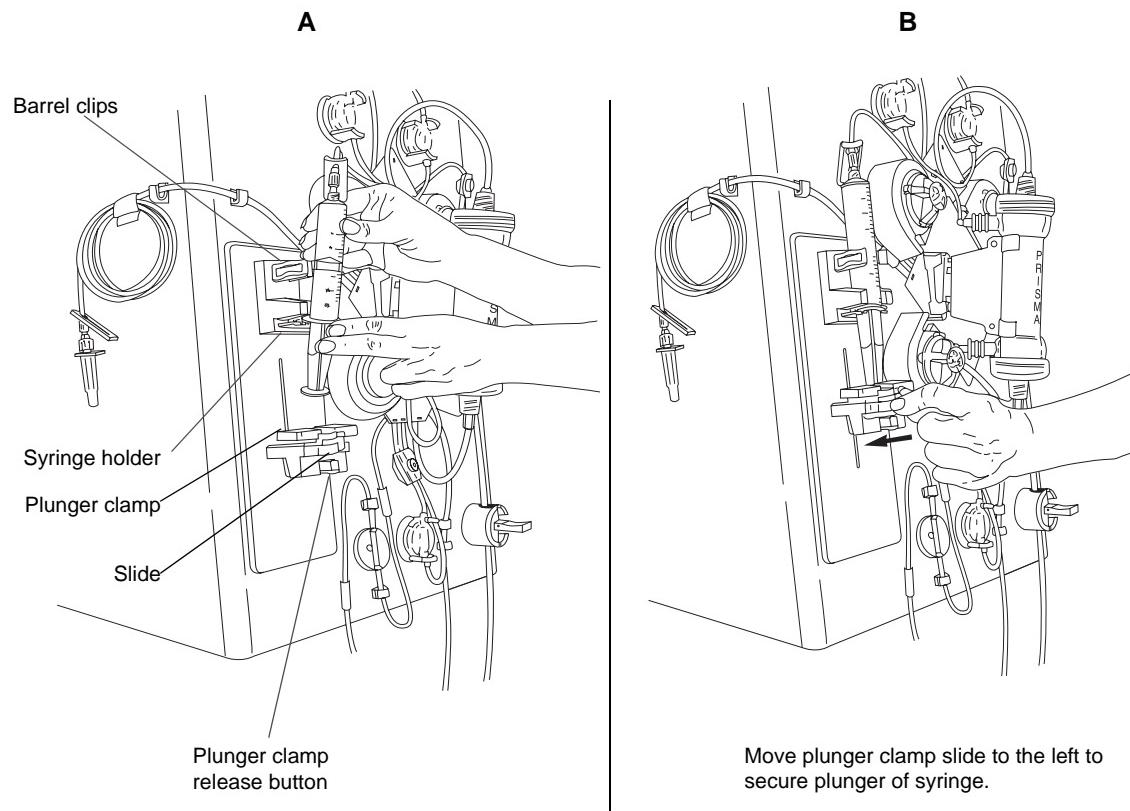

Figure 9. Installing the Anticoagulant Syringe with the PRISMA Set for CRRT
(See Figure 9)
4. Install the full syringe, following Steps 5 through 7 under “Initial Syringe Installation.” See Figure 9.